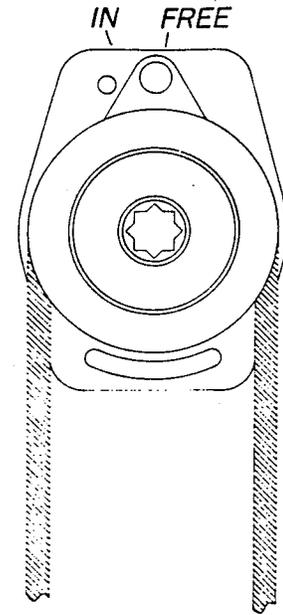

Fig. 7:2
Reefing and unreefing is accomplished with a reefing line and an outhaul operated either from the cockpit or by working at the mast. In the latter case the outhaul is also taken to the boom or mast near the gooseneck. (See Fig. 7:1).
Alternative Clew Outhaul Arrangement. Fig. 7:1
- When reefing from the cockpit the Reefing Winch must be set to "FREE". (See Fig. 7:2).